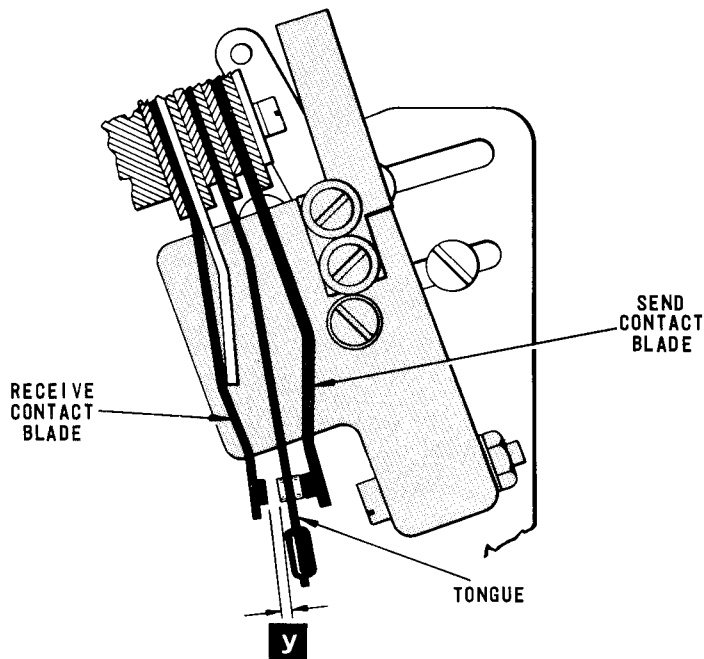

Fig. 4.19 SEND-RECEIVE CONTACTS
- (i) A force of 1 - 1½ ounces (28 - 43 grammes) applied to the tip of the receive contact blade, Fig.4.19, causes the blade to move away from its buffer.